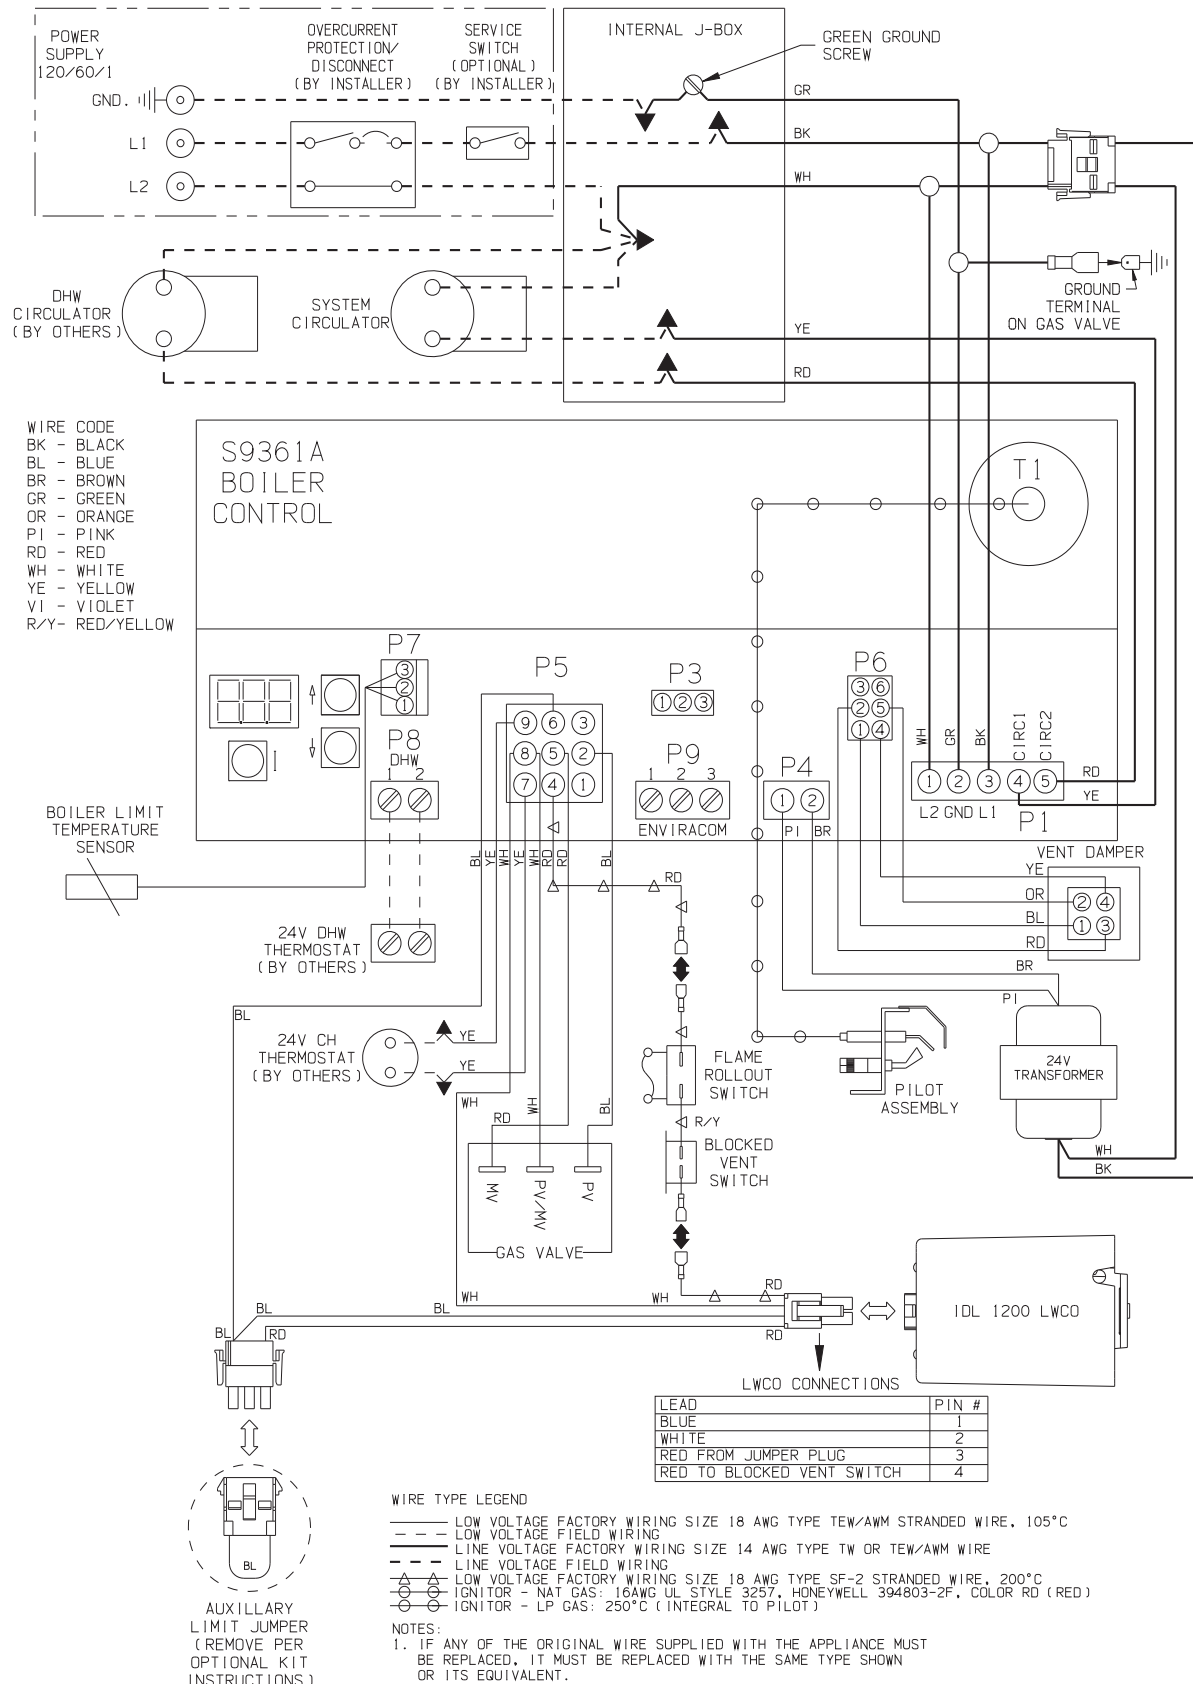

FIGURE 9.3: CONNECTIONS DIAGRAM
- 2) Low Voltage Connections – Low voltage field connections are located as shown in Figure 9.3 and are as follows:
- a) Heating (CH) Thermostat - Connect to a 24 volt thermostat or other “dry contacts” (such as a zone panel end switch) that close upon a call for heat. Follow thermostat manufacturer's instructions. To insure proper thermostat operation, avoid installation in areas of poor air circulation, hot spots (near any heat source or in direct sunlight), cold spots (outside walls, walls adjacent to unheated areas, locations subject to drafts). Provide Class II circuit between thermostat (or zone controls) and boiler.
- c) Auxiliary Limit Jumper - Used to connect auxiliary limit device. If no such devices are installed, the factory supplied jumper shown in Figures 9.3 and 9.4 must be installed for boiler to operate.